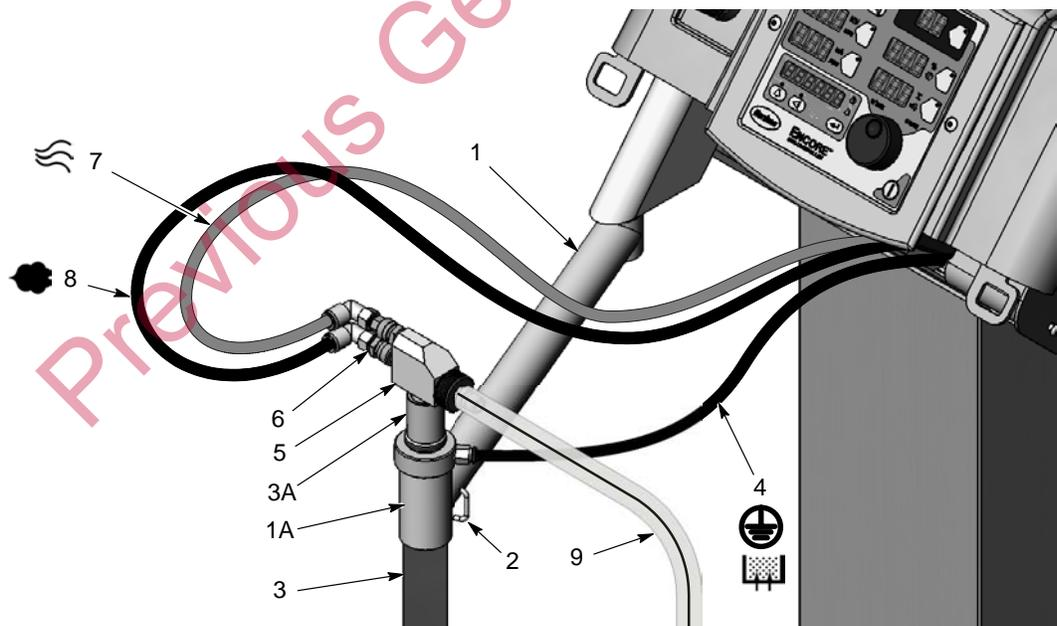

Figure 2-4 Pickup Tube and Pump Installation
1. See Figure 2-4. Unpack the pickup tube (3). Swing the arm (1) out, move the pickup tube catch (2) out of the way, then slide the pickup tube through the tube holder (1A).
2. Install the pump (5) into the pump adapter (3A) with a slight twisting motion.
3. Plug the 8-mm blue atomizing air tubing (7) into the top tube fitting on the pump.
4. Plug the 8-mm black flow-rate air tubing (8) into the bottom tube fitting on the pump.
5. Plug the 6-mm black fluidizing air tubing (4) into the elbow tube fitting on the pickup tube.
6. Connect one end of the powder feed hose (9) to the pump.